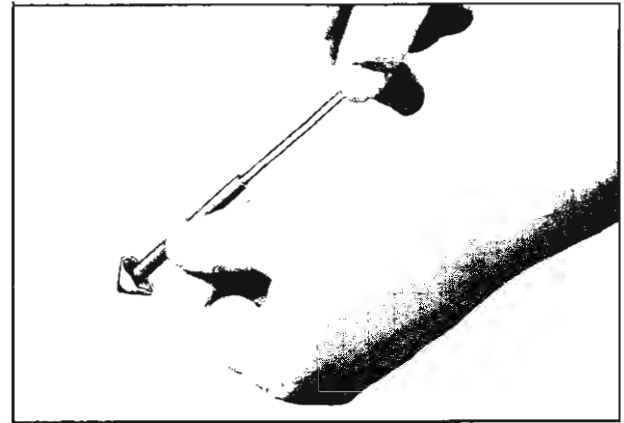

Fig. 41—Preparing Plug for Use
5. Prepare the plug for insertion into nozzle of the plug-insertion tool by pulling white stem of plug in metal tube until the head of the plug is seated tightly against the end of the tube (fig. 41). Cut off protruding end of plug stem.